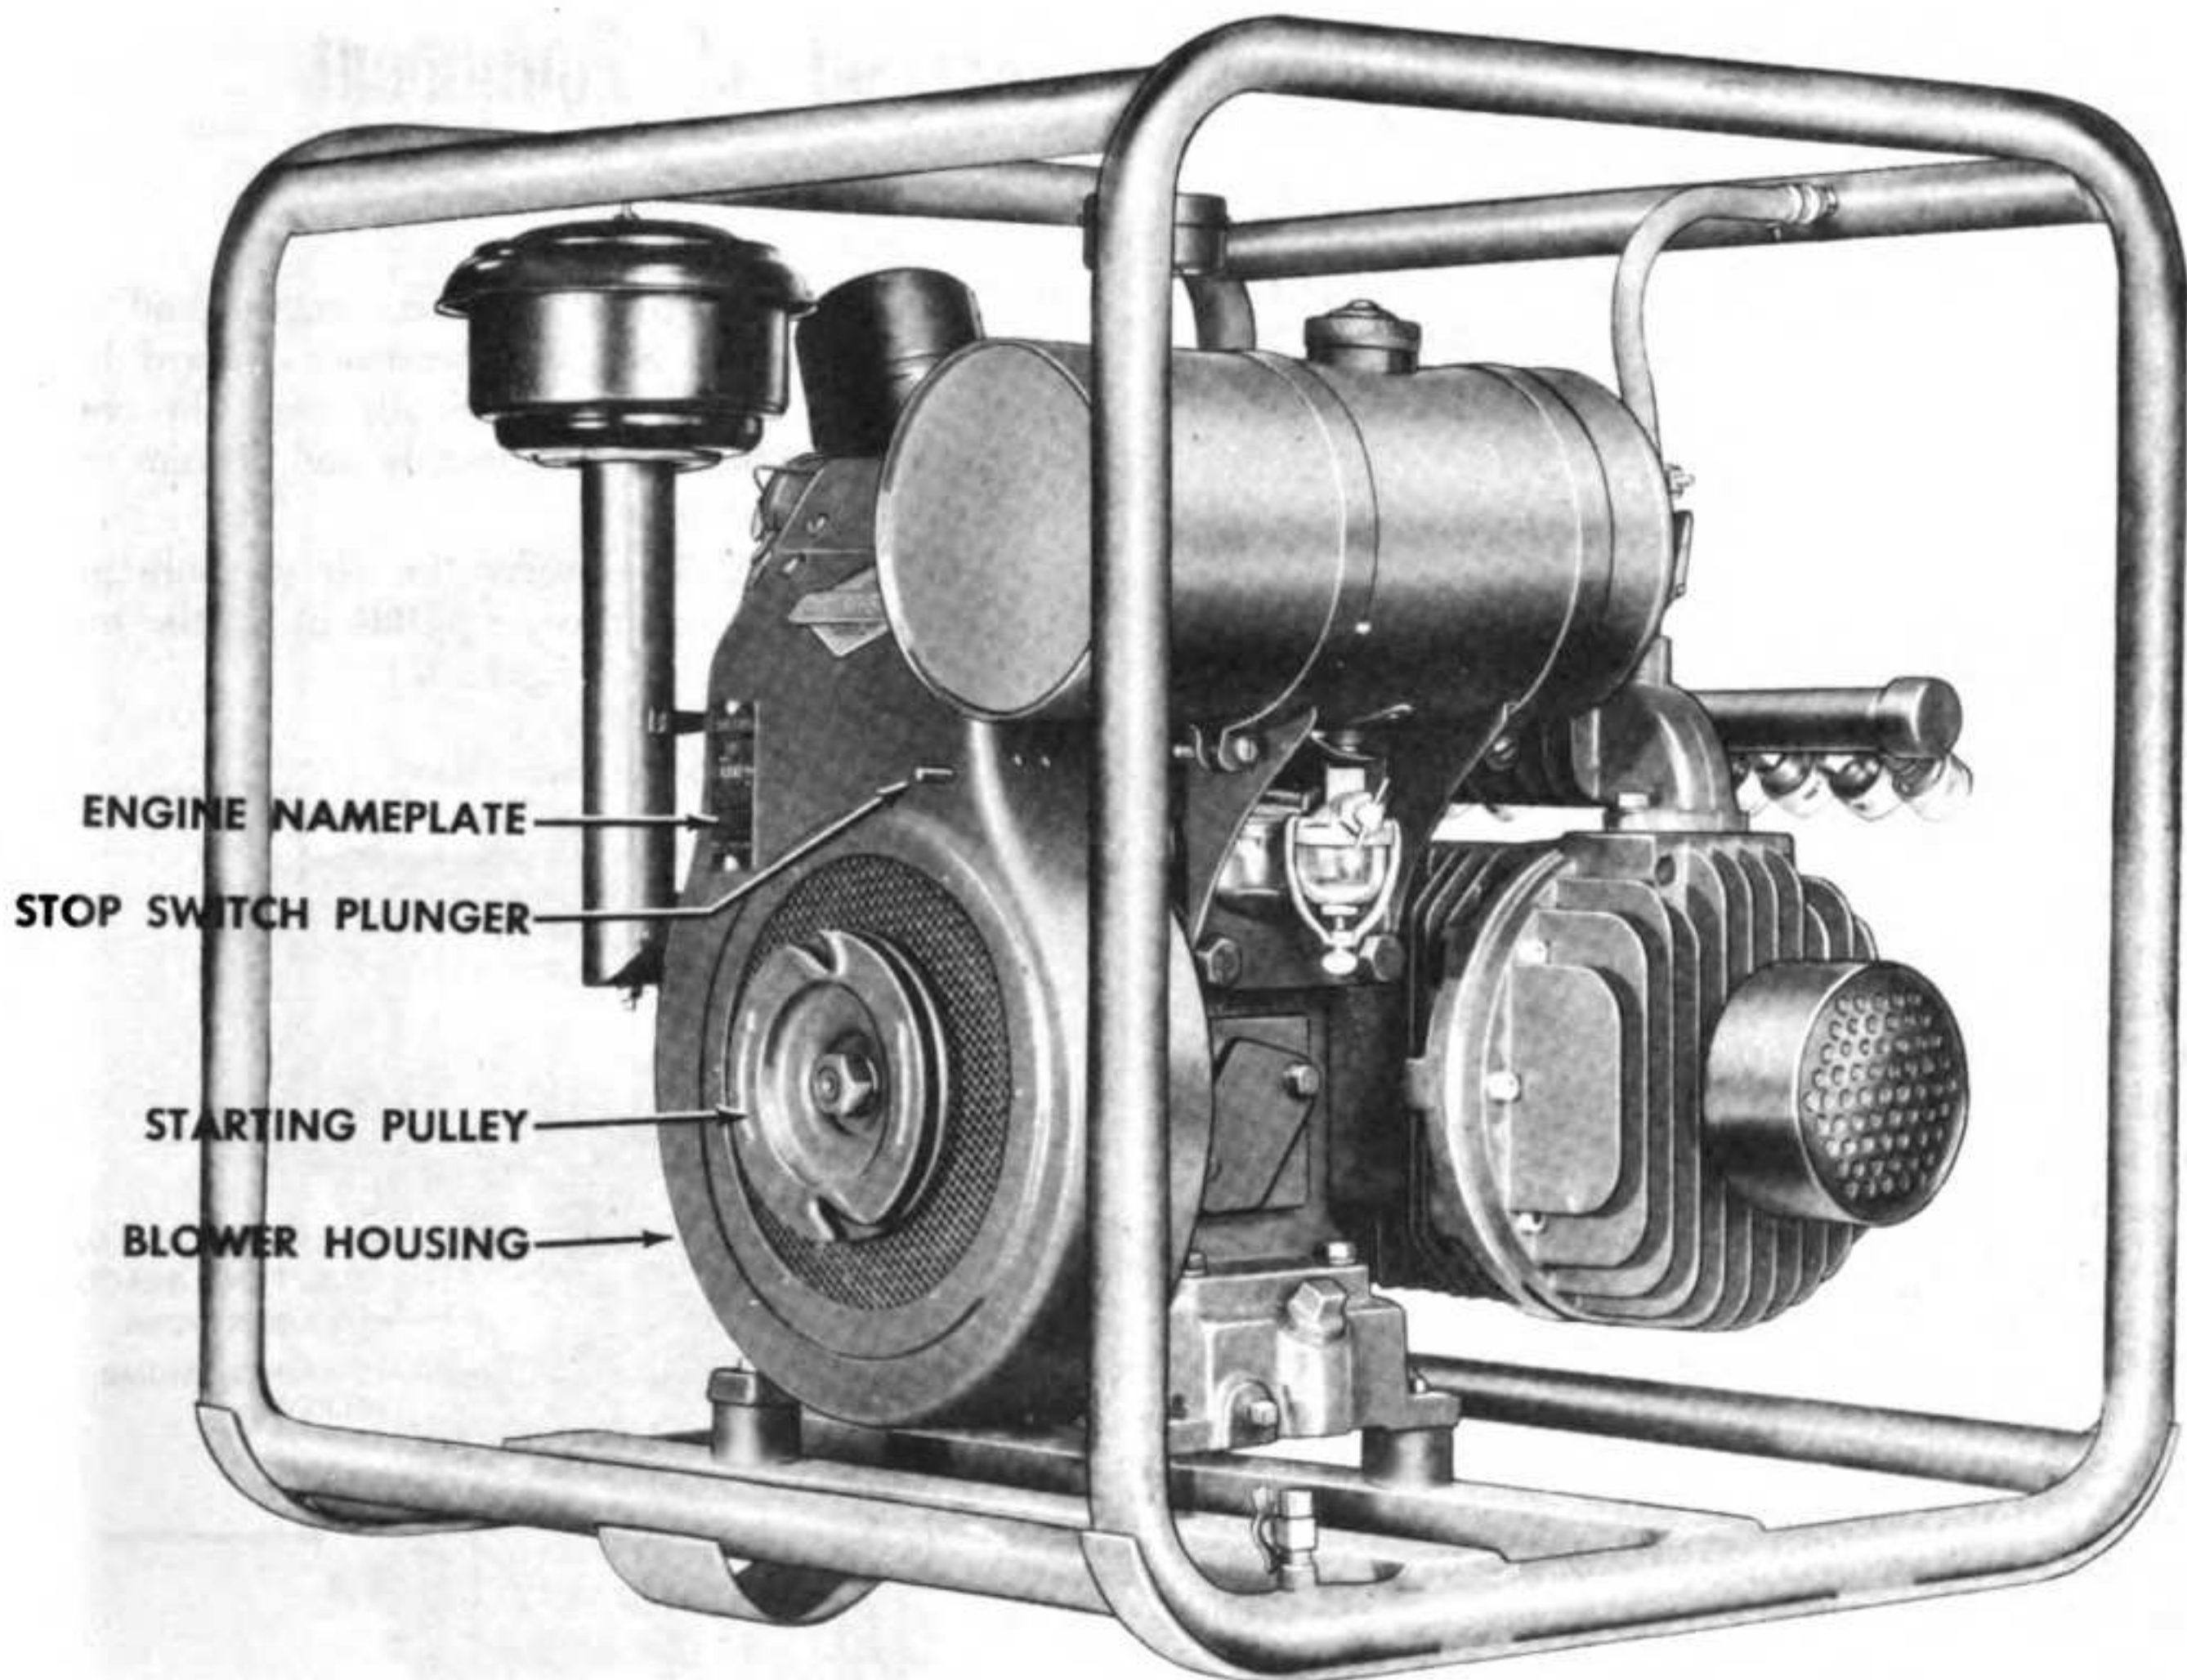

Figure 7—Blower Housing Side of Engine
(1) **STARTING PULLEY.** The starting pulley is attached to the crankshaft, mounted outside the blower housing. (See figure 7.)
(4) **STOP SWITCH PLUNGER.** The stop switch plunger protrudes from the blower housing. (See figure 7.) Pressing in the plunger grounds the spark.